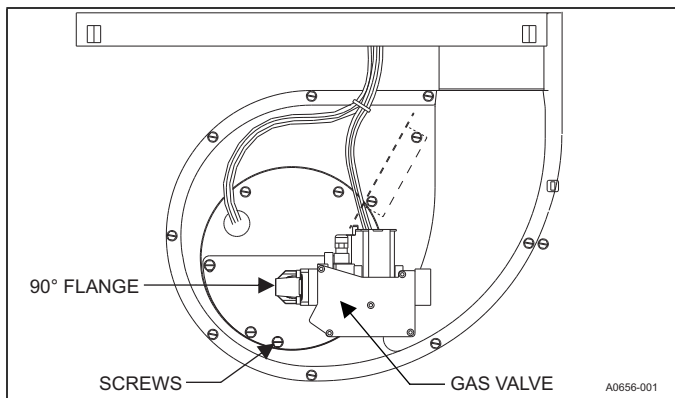

Figure 16: Burner assembly
5. Remove the four screws that attach the gas manifold to the burner support box. See Figure 16.